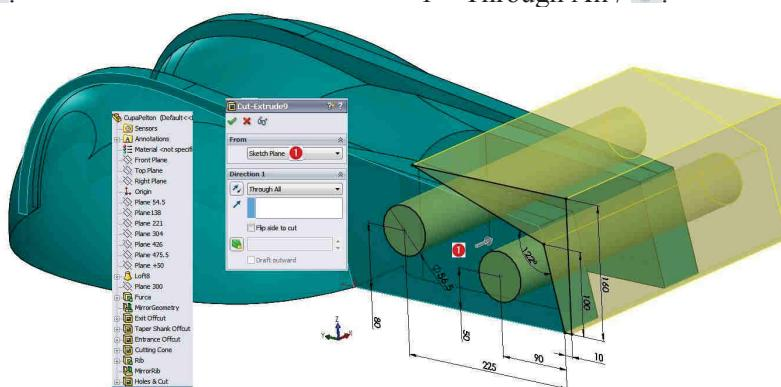

Fig. 3.23
**31 Schițare contururi găuri  $\phi 56.5$  &  $160 \times 122^\circ$ :** comanda Sketch - Fig. 3.23 – Selecție plan ① (față laterală furcă) / Schițare contururi găuri  $\phi 60$  &  $160 \times 122^\circ$  /
**31 Sketching of the  $\phi 56.5$  &  $160 \times 122^\circ$  contours:** the Sketch command - Fig. 3.23 – Select ① Plane (Taper Shank lateral face) / Sketch the holes  $\phi 60$  &  $160 \times 122^\circ$  contours /
**32 Extrudare contururi găuri  $\phi 56.5$  &  $160 \times 122^\circ$ :** comanda Extruded Boss/Base - Fig. 3.23 – Direction 1 – Through All /
**32 Extrusion of the  $\phi 56.5$  &  $160 \times 122^\circ$  contours:** the Extruded Boss/Base command - Fig. 3.23 – Direction 1 – Through All /